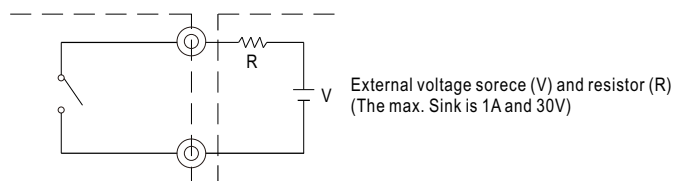

Fig 2.2 Internal circuit of AC OK (Battery Low), via relay contact
- (1) Alarm signal is sent out through "AC OK" & "Battery Low" pins via relay contact.
- (2) An external voltage source is required for this function. The maximum applied voltage is 30V and the maximum sink current is 1A. Please refer to Fig 2.2.
- (3) Table 2.1 explains the alarm function built in the power supply
- (4) AC OK signal (RL1, referring to Block Diagram) will go into hiccup mode when the overload protection is activated.